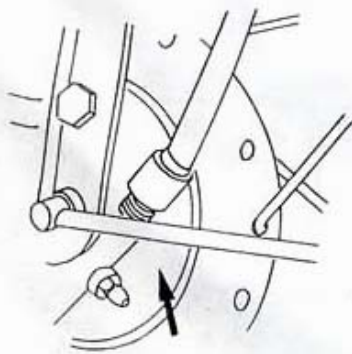

Fig. 4
- Disconnect the speedometer cable and release the front brake cable from the front brake arm (fig. 4).